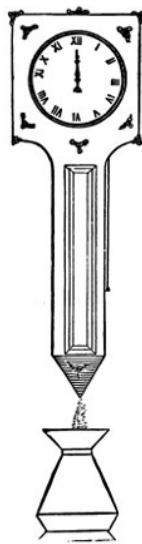
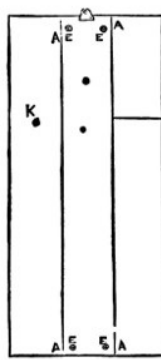
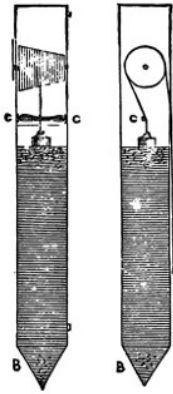

Fig. 16.
Fig. 17.
Fig. 18.
An ingenious and inexpensive timekeeper may be made by any boy for a few pence and a little labour. Buy a sheet of millboard, the thicker the better—size, 27 in. by 22 in.—cut off a strip 10 in. by 27 in., and shape it as shown in Fig. 16, the top part to be 10 in. square, and the lower 17 in. by 4 in. Next mark off the remainder of the millboard into three equal parts of 4 in. each, as shown in Fig. 17, then, with a straightedge and a sharp knife, cut half through the lines AA. This will form the two sides and back of the case. The funnel (B, Fig. 18) should be made of tin, with a square top to fit over the millboard, and have a very small aperture at the point; any tinman will make this for 3d. or 4d. The spindle (C, Fig. 18) must be  $3\frac{3}{4}$  in. long,  $3\frac{1}{2}$  in. deep in front, diminishing to 2 in. at back, have a screw-shaped groove from end to end, and work on a small spindle or axle, projecting 1 in. in front, for the hand to be connected to, and  $\frac{1}{2}$  an inch at rear. If the young horologist has not a lathe at his disposal, the spindle can be obtained from a turner for a few pence. The weight may be made of a piece of shaped stone, or of an empty stone ink-bottle, from the neck of which the cord passes over the bar (c), round the grooves of the spindle, and out of the hole (K). A small weight, such as a bullet, must be fastened to the other end. A piece of canvas should be glued round the edges of the case, and the whole painted with a good coating of Brunswick black, over which any design may be made, either with gold lines, grotesque figures, or coloured pictures. The dial should be of white paper, 7 in. in diameter, and the hand cut out of the spare millboard and then gilded. Four small reels (E, Fig. 17), such as are used for silk, should be glued on the back, to keep the case from the wall, and a ring fastened to the top to hang it by.
It is now ready for the motive power, which is obtained by the falling of sand, as in the hour-glass. The sand must be first well washed, dried, and sifted, to remove all stones, then poured through the case top to within two inches of the cross-bar (c, Fig. 18), the weight resting on the surface. As the sand runs through the funnel-point the weight will descend with it at the rate of about 1 in. per hour. The flow of sand will be perfectly equable from the time the case is filled until it is nearly empty, which is explained by the fact that the sand lies in a succession of conical heaps, only the *first* of which presses on the bottom, the others throwing their weight on the sides of the case. A gallon of sand will be more than sufficient to fill the cases, and as it falls it should be caught in a vase placed beneath for that purpose. In winding up the clock the inside weight must be raised to the cross-bar by pulling down the bullet end of the cord, and the sand poured through a paper funnel into the top of the case, care being taken to set the hand to the right hour. A clock of the dimensions here given will work for about twelve hours, but by lengthening the sand-box the working hours will be increased in proportion. It will save time and trouble to have a double supply of sand and two vases, and use them alternately. Of course one does not pretend that such a simple clock as this will keep accurate time.